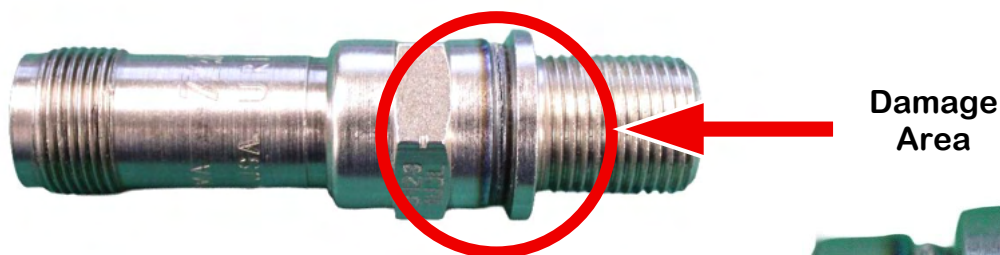

Figure 1
There have been field reports of cracks in Tempest[®] spark plugs. The area of damage is shown in Figures 1 & 2.
3. If an affected spark plug is found to be installed, remove the affected spark plug(s) from the engine and visually inspect for cracks as shown in Figures 1 and 2. Similarly, inspect any affected spark plugs in inventory.